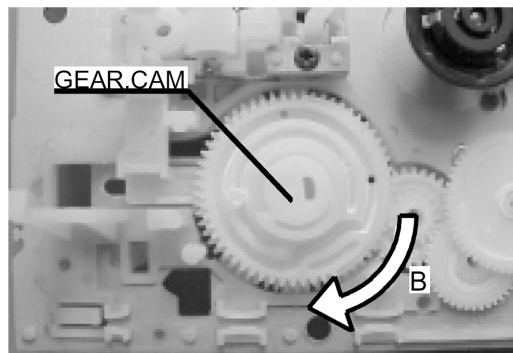

Fig.8-8
- 2) Install the GEAR, CAM and rotate it in the direction of the arrow B (clockwise) until it stops. (Fig. 8-8)